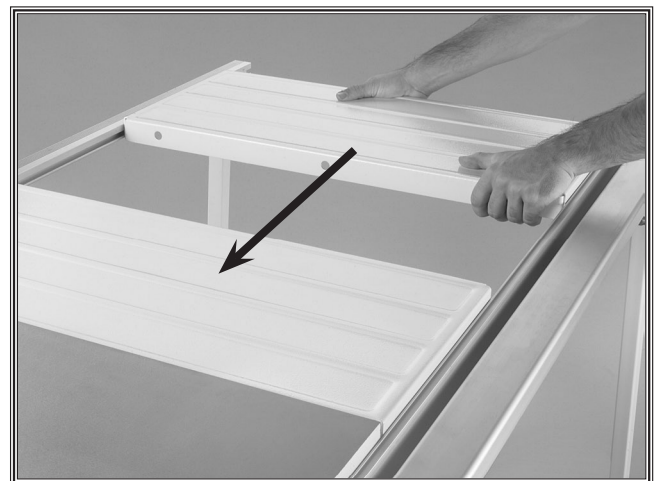

Figure 12. Sliding in the wings.
3. Slide the tables into place as shown in Figure 12. Note—*The tables slide into place easily if you lift up while you slide them into place.*